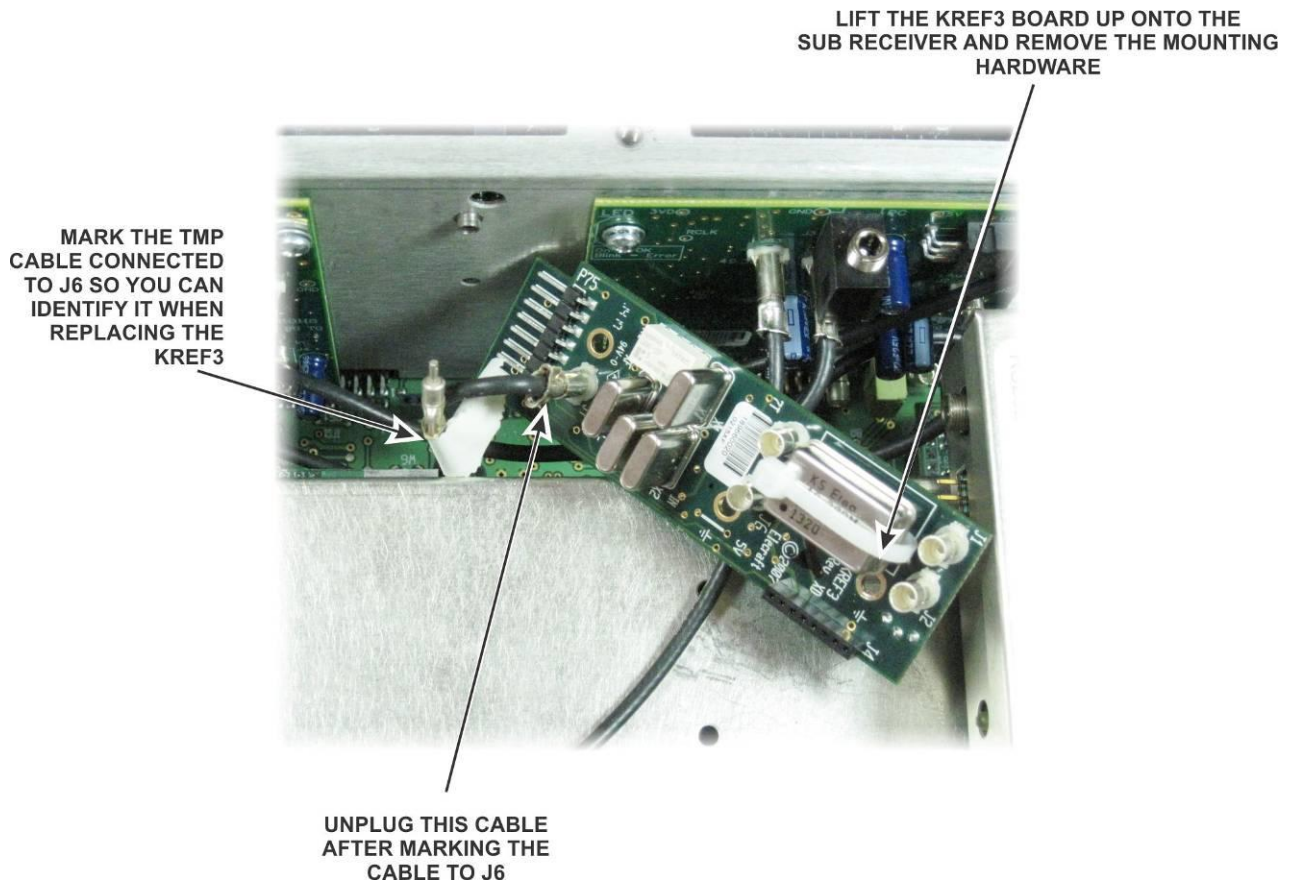

Figure 8. Removing the KREF3 with Sub Receiver Installed.
- ☐ Once the KREF3 board is tilted away from the front panel shield, lift the KREF3 up, unplugging it from the connector on the K3 RF board and lift it up far enough to reach TMP cables connected to the lower half as shown in Figure 8. One of the cables goes to the sub receiver enclosure. The other two go to connectors hidden underneath the sub receiver enclosure. Use tape or other marker to identify the cable going to J6 so you can reconnect the cables correctly when you reinstall the KREF3 board.